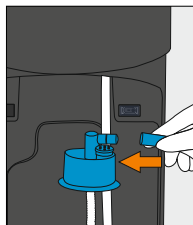

Figure 42
20. Remove protective cap from the SmartFlo SF-1 water line and install onto the replacement bottle adaptor assembly (Figure 42)